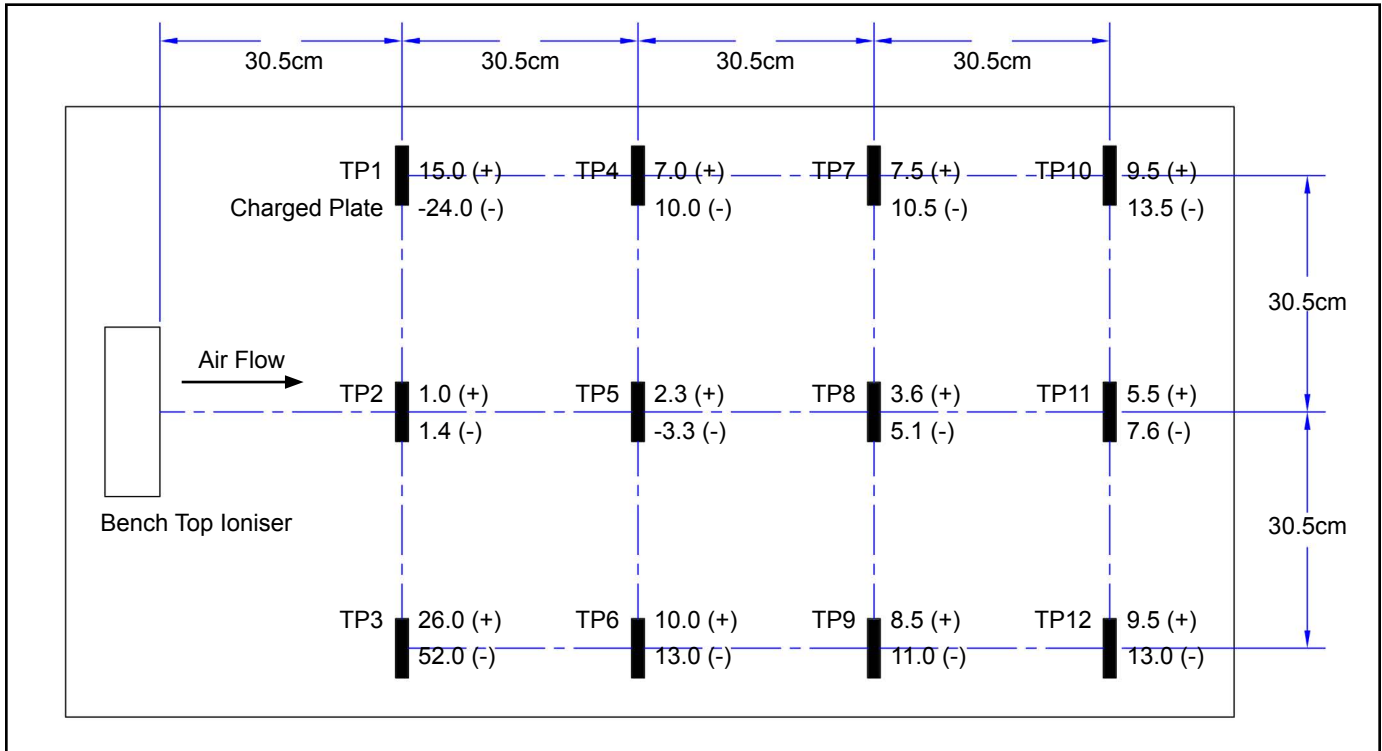

Figure 4. Neutralisation (Decay) Times at 120VAC / 220VAC, 60Hz input
5. Test the neutralisation (discharge) time by applying a $\pm 1,000$ volt charge on the charged plate analyser. The neutralisation (discharge) time should be less than 2 seconds. See figures 4 and 5 for typical decay times.
The comparative efficiency of bench top ionisers is determined by a standard test published by the ESD Association: ANSI/ESD STM 3.1. Typical positive and negative decay times (1000V - 100V) measured using this standard are shown in Figures 4 and 5. The performance of the ioniser was measured with the unit positioned as shown, with the fan speed on high and without a filter.
Balance (offset voltage) at 30 cm in front of Ioniser (see Figures 4 and 5)